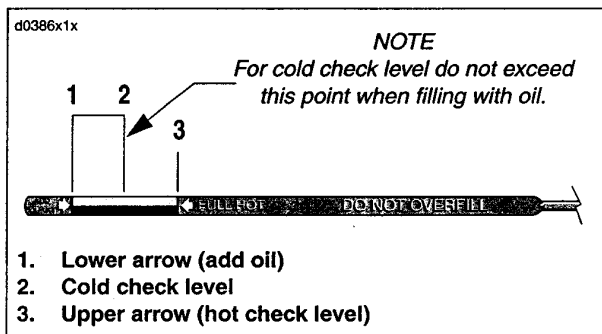

Figure 1-2. Engine Oil Dipstick
See Figure 1-2. For preride inspection with motorcycle leaning on jiffy stand on level ground, oil should register on dipstick in the range between lower arrow (1) and midway point (2) when engine is cold.